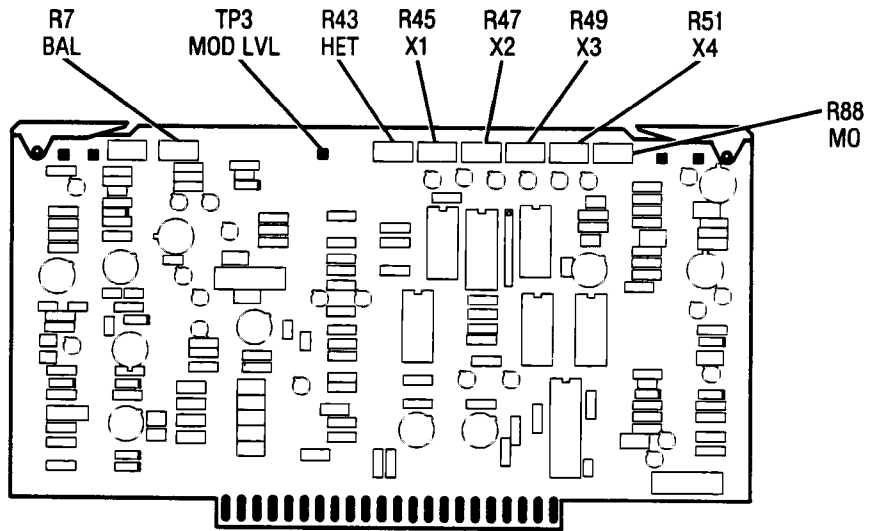

Figure 5-53. SRD Bias Adjustments on A24 and A26
1. Connect the DVM to A26TP3 (MOD LVL). Preset A26R88 (MO) fully clockwise (Figure 5-53). Turn the DUT's LINE switch ON and allow 30 minutes warm up.
3. Adjust the front panel rotary knob for a DVM indication of 0.00 volts, then note the POWER dBm display reading. Adjust A26R88 (MO) counter-clockwise until the POWER dBm reading indicates a peak of output power. If the output power cannot be peaked, adjust A26R88 (MO) counter-clockwise to decrease the POWER dBm indication by 0.2 dB.
9. Preset A24R1 (OFF A) (Figure 5-53), A24R2 (OFF B), A24R5 (X2C), A24R8 (X3C), and A24R11 (X4C) controls fully counter-clockwise.